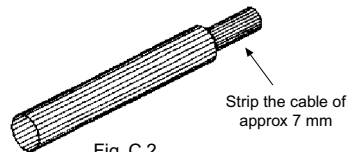

Fig. C.2
1) Strip the plastic cable with a plastic cutter, uncovering approximately a 7 mm section of the Fibre Optic (see Fig. C.2)